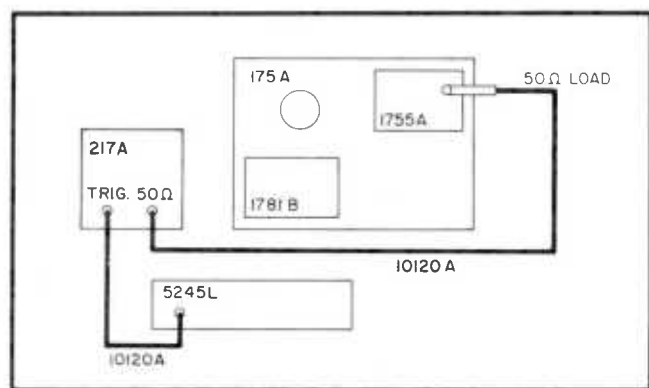

Figure 5-2. Frequency Accuracy Check
a. Refer to Figure 5-2 and Table 5-1 and connect required equipment.
a. With Model 217A connected as shown in Figure 5-2, set the controls as follows: